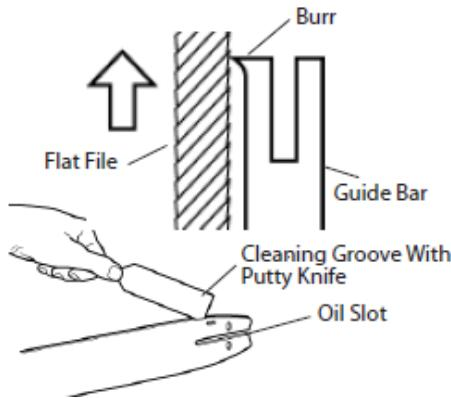

Fig. 12a
- Remove the guide bar (12) from the chainsaw, clean any debris or dust from the surface and the groove.
- Remove any burrs from sides of guide bar with a flat file and clean the groove with a putty knife, see Fig. 12a.